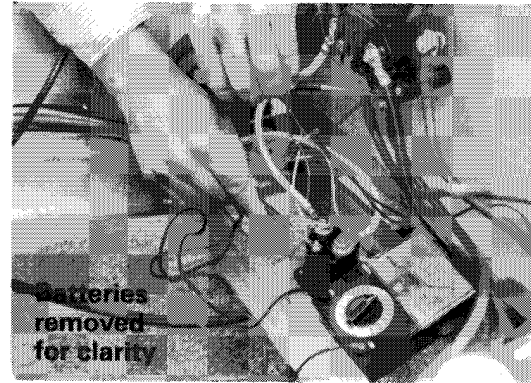

Figure 17-5
With VOM set at  $\Omega$ , place red (+) probe of meter on the green wire terminal on the activating coil stud of the solenoid. Place the black (-) probe on the driver's side contact of the F&R switch (Figure 17-5). Depress the accelerator pedal. The reading should be continuity with the accelerator pedal depressed and no continuity with the accelerator pedal in the rest position. If the readings are not correct, remove the V-Glide wiper switch housing cover and check for proper activation of the limit switch by the wiper arm. Also be sure the green #18 wire is connected to the normally closed (NC) terminal of the limit switch, and the red #18 wire is connected to the common (COM) terminal. The normally open (NO) terminal of the limit switch should not have any wires connected to it.